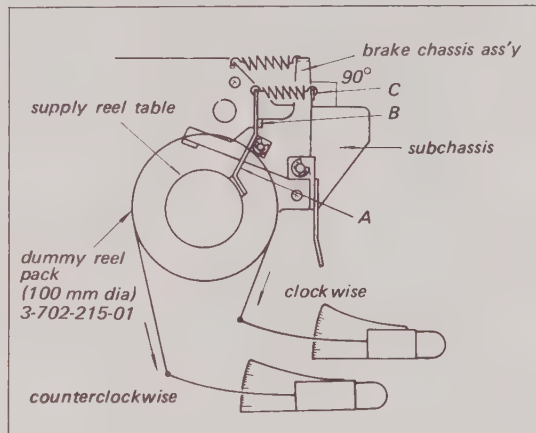

Fig. 5-16. Stop brake adjustment
1. Check to see that the brake pad is tangent to the Supply Reel Table. See Fig. 5-16. Bend the Brake Lever at point A if necessary.
2. Check to see that the right edge of the Brake Chassis Assembly is at right angles to the rear edge of the Subchassis. See Fig. 5-16. Bend the stopper B to make it so.
If brake is off limits in the clockwise direction, adjust the Spring Anchor marked C in Fig. 5-16.